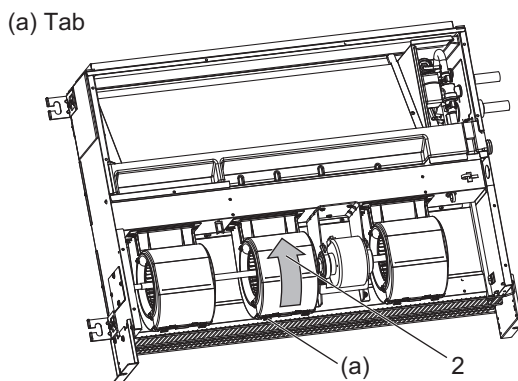

Fig.11
- (1) Squeeze the tabs on the fan casing to remove it in the direction of arrow 2. (Fig. 11)